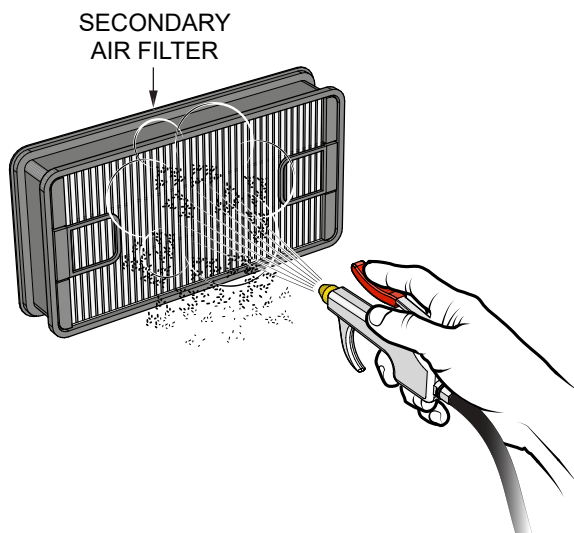

Figure 35. Cleaning Secondary Air Filter
6. To clean the secondary air filter element (paper air filter) as referenced in (Figure 35), tap the filter element several times on a hard surface to remove dirt, or blow compressed air not to exceed 30 psi (207 kPa, 2.1 kgf/cm²) through the filter element from the inside out.